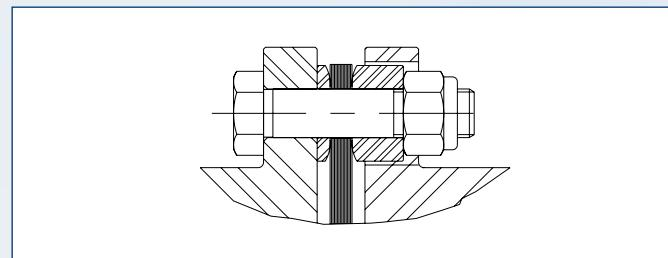

Fig. 8: G series Hardware Arrangement
- Once the hubs are aligned in the axial, angular and parallel directions, install the disc pack and sleeve. Figures 8 and 9, page 61 show the hardware orientation for each coupling type.
- At this point, the coupling bolts should be torqued to specified torque value (T); see Table 6, page 62. A torque wrench should be used to assure proper bolt tightening.
- It is a good practice to check the coupling alignment one last time after completing the assembly. This can be achieved by measuring the disc pack gap in 2 locations 180 degrees apart to find (2) lengths. The difference in these two measurements should not exceed (U); see Table 6, page 62. This completes the coupling installation.